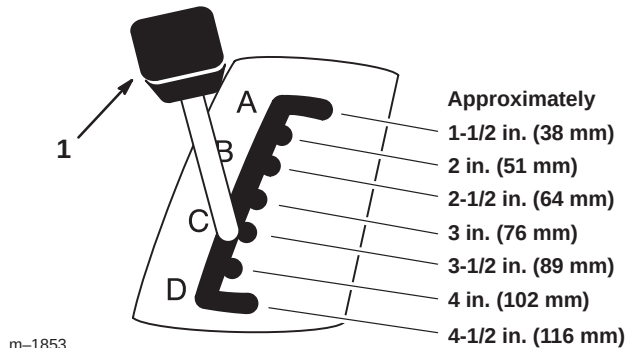

Figure 21
2. Pull on the height-of-cut lever on the tractor and move it to the desired position (Fig. 21).